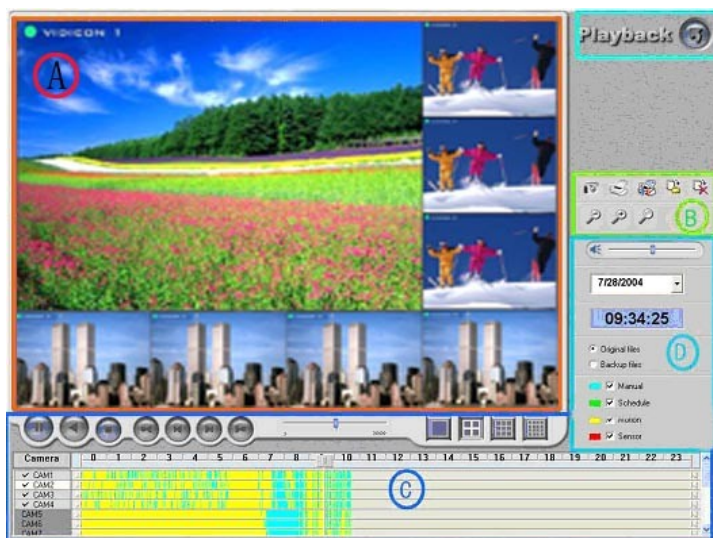

Fig6.1 Search and playing back Interface
**Only in one channel playing back pause mode (refer to Fig6.1) this**